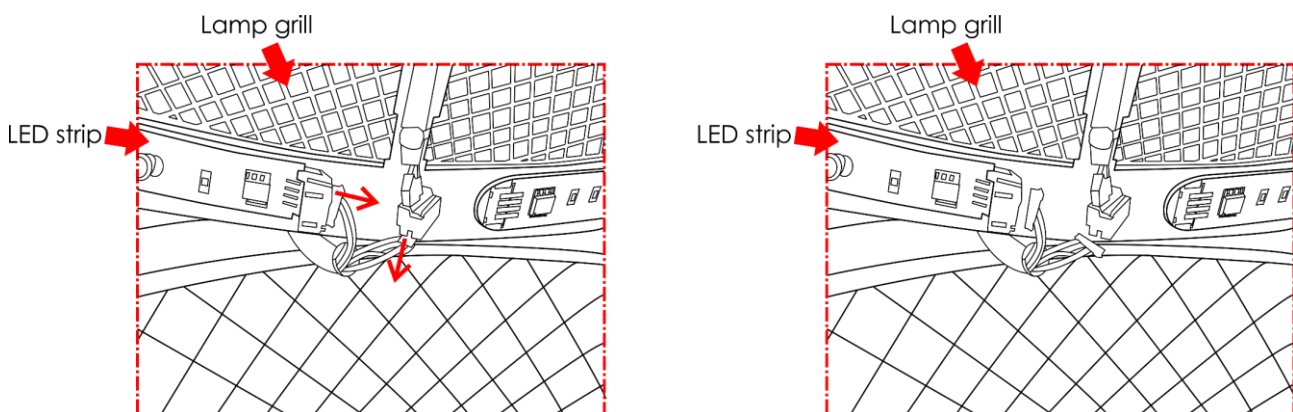

Fig. 04
- 03) Carefully disconnect the LED strip from the 2 connectors at the side of the lamp grill (Fig.04).